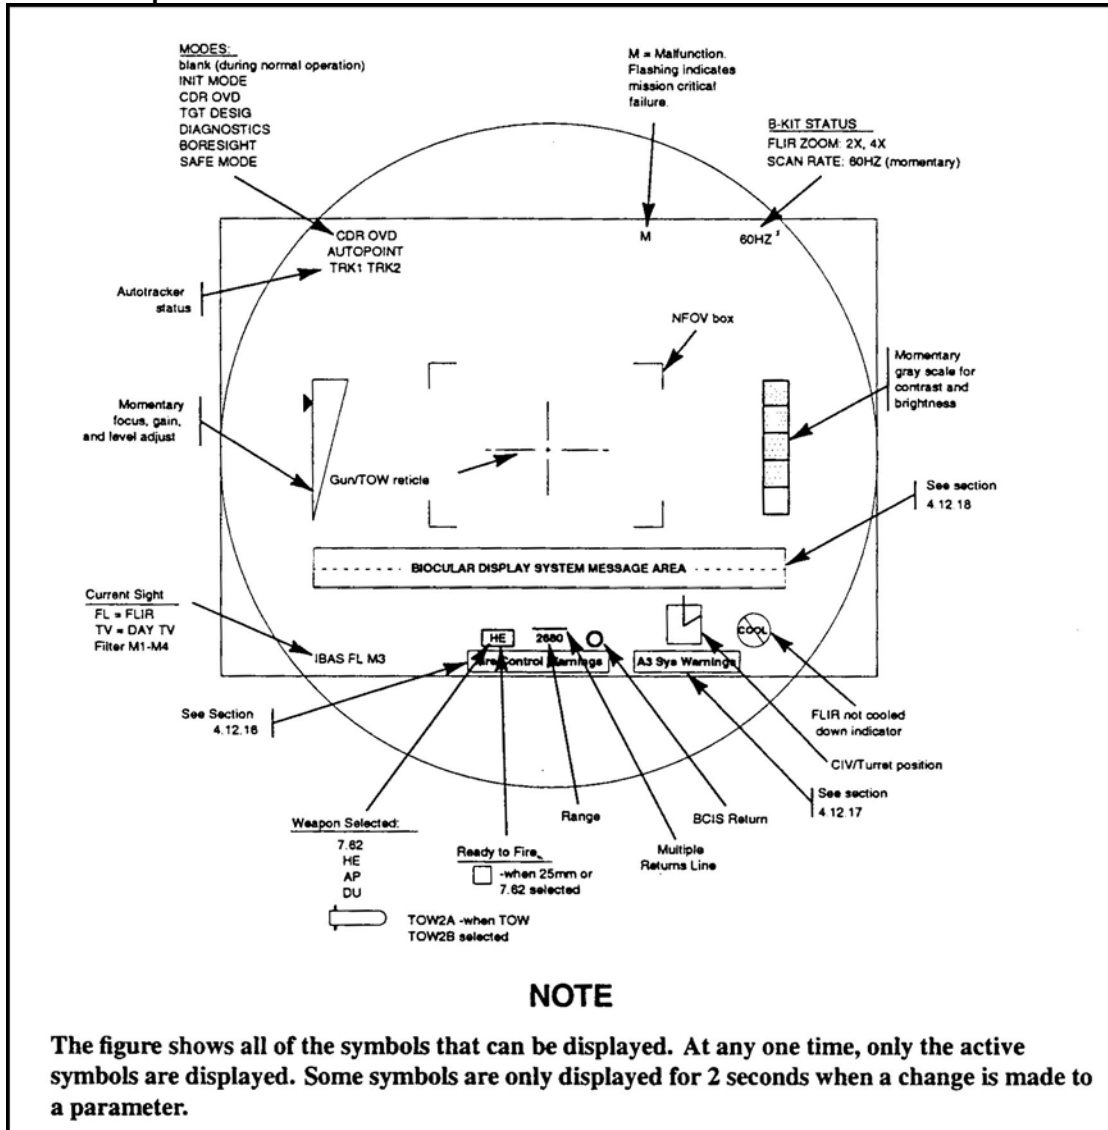

Figure 13. IBAS symbology.
- (1) Select 25mm gun.
- (a) Move the ammo type switch up for armor piercing (AP).
- (c) Observe the sight for the weapon selected symbology (AP or DU ) (Figure 13).